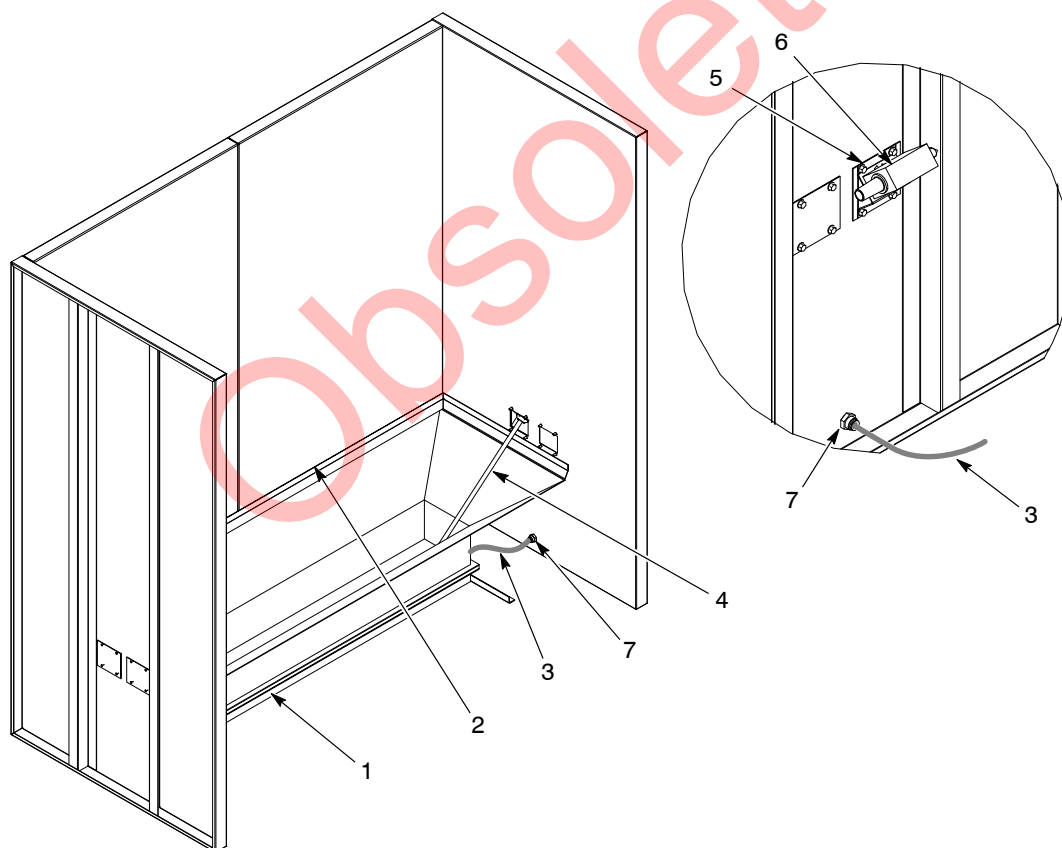

Figure 9 Hopper and Transfer Pump Installation
1. See Figure 9. Slide the hopper(s) (1) into the collector module, up against the back and side walls.
3. Remove the backing from the drip edge (2) adhesive tape, then press the drip edge into place slightly above the hopper. If necessary, use #10 or 1/4 in. self-drilling screws to hold the drip edge in place until the adhesive sets up.
4. Drill a 0.81 in. diameter hole in the wall below the pump mounting holes and install the 10-mm bulkhead fitting (7) included with the hopper in the hole for fluidizing air.
5. Remove a cover plate from the side wall and install the pump adapter (5).
6. Install the pickup tube (4) into the pump adapter.
7. Install the transfer pump (6) on the adapter. Connect air tubing and powder transfer tubing to the pump.
8. Connect a short length of 10-mm tubing (3) between the hopper plenum fitting and the bulkhead fitting. Connect 10-mm tubing between the bulkhead fitting and a source of regulated compressed air. Typical fluidizing air pressure is 5–10 psi.